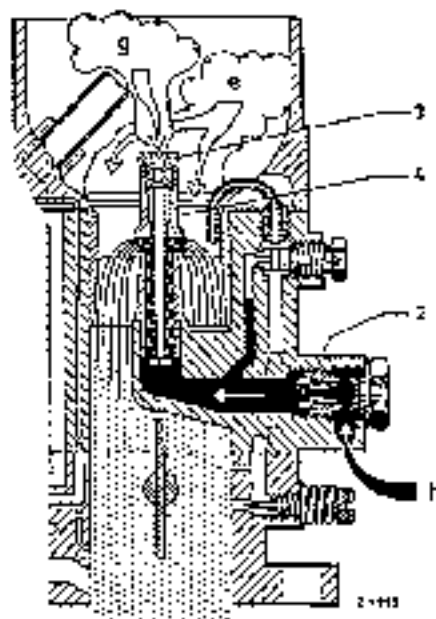

Fig. 07-Q/18
In its standard form the double down-draft carburetor has a float and a float needle valve in the carburetor cover. The float chamber is ventilated through the tube (23) in the carburetor cover. For each of the carburetor suction canals there is an air horn, a main jet and a mixing tube holder with mixing tube and air correction jet (see Fig. 07-Q/11).
When the vacuum effect increases at higher engine speeds the fuel level in the mixing tube holder decreases and compensating air enters through the air correction jet (3) and passes through the small bores in the mixing tubes and combines with the fuel flowing through the main jet to form a mixture. With increasing engine speed the proportion of air in the mixture increases so that overenrichment of the fuel-air mixture is prevented and the engine receives a more or less uniform mixture over the whole speed range (Fig. 07-Q/18).